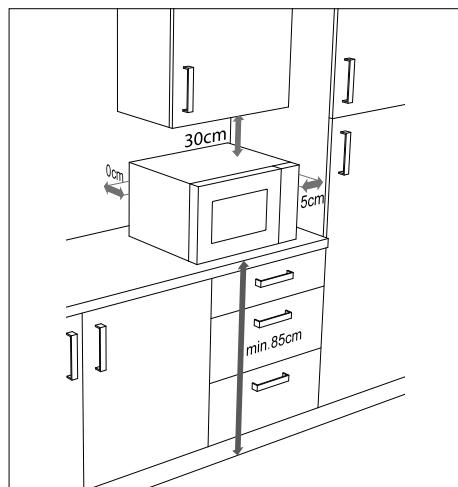

Fig. 3 – Appliance clearance
- ▶ To ensure adequate ventilation, the clearances specified in **"Fig. 3 – Appliance clearance"** must be maintained. The spacer at the back of the appliance must touch the wall. It ensures that the correct clearance is maintained when positioning the microwave.